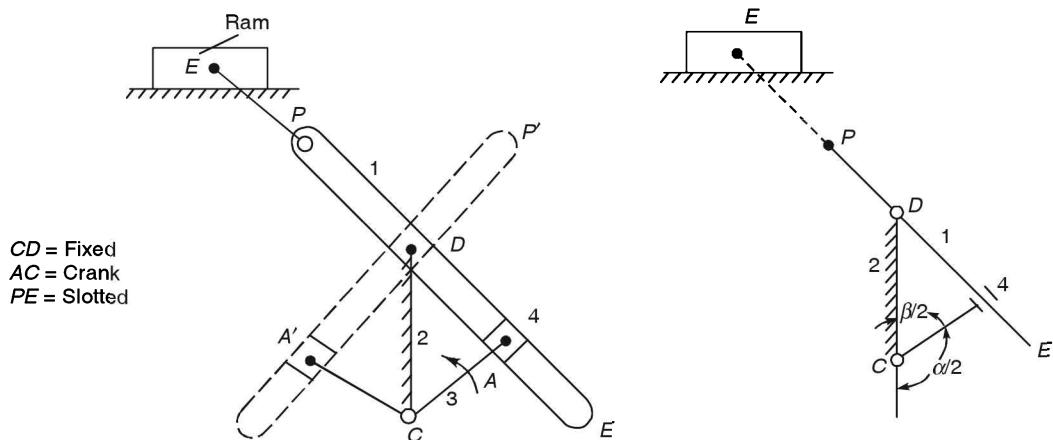

FIGURE 7.23 Whitworth quick-return mechanism.
- (c) *Whitworth quick-return mechanism:* In this inversion of a slider crank mechanism which is similar to a quick-return mechanism as link 2 is fixed. The only difference between a quick-return mechanism and a Whitworth quick-return mechanism lies in the different length proportions adopted for driving the crank (link 3) and the fixed link (link 2). The slotted link oscillates about point D as shown in Figure 7.23. The connecting rod PE is used to move the ram of the shaper machine on the guides. The ram thus reciprocates on the horizontal guides. The cutting time in the motion is achieved more than idle or return stroke as explained below: